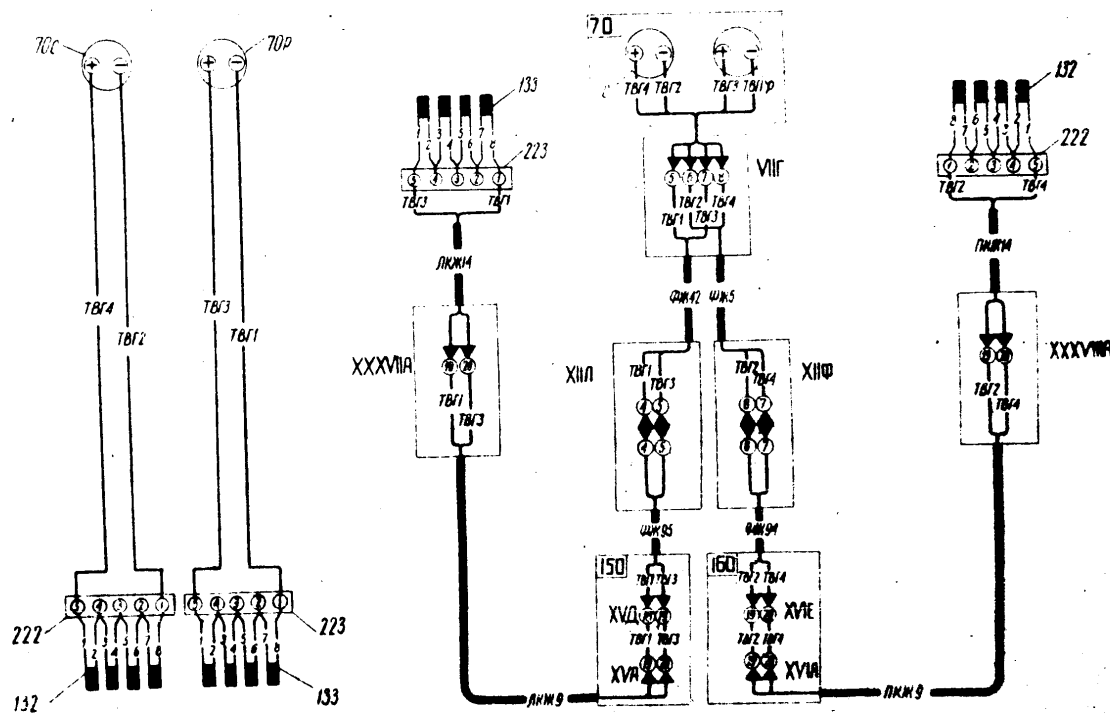

Fig. 190. Principal and assembly diagram of the exhaust gas thermometers.
- the exhaust gas thermometers /fig 190, 191/
/Fig. 190, 191/